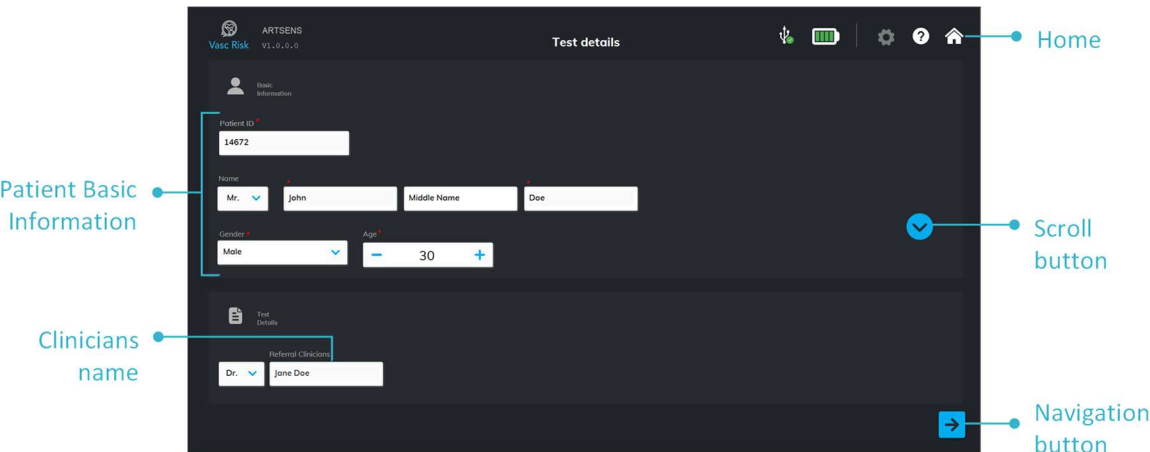

Fig.20. Test Details
- 2. Enter the patient information, as shown in fig. 20.